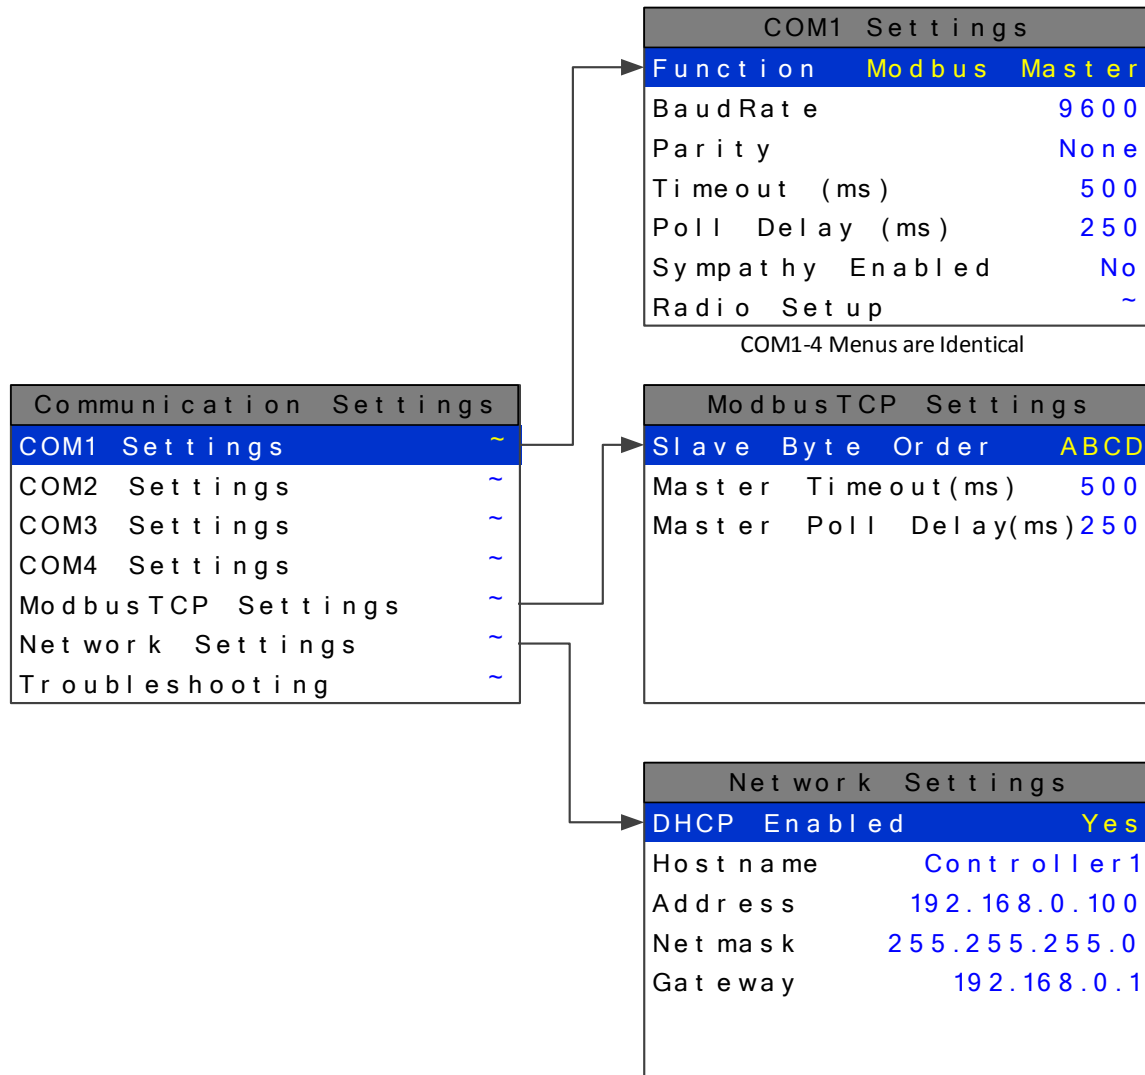

Figure 2-22
**COMMUNICATION SETTINGS** entry menu, show on left in Figure 2-22; use / to scroll up or down to select the communication port that is to be configured.